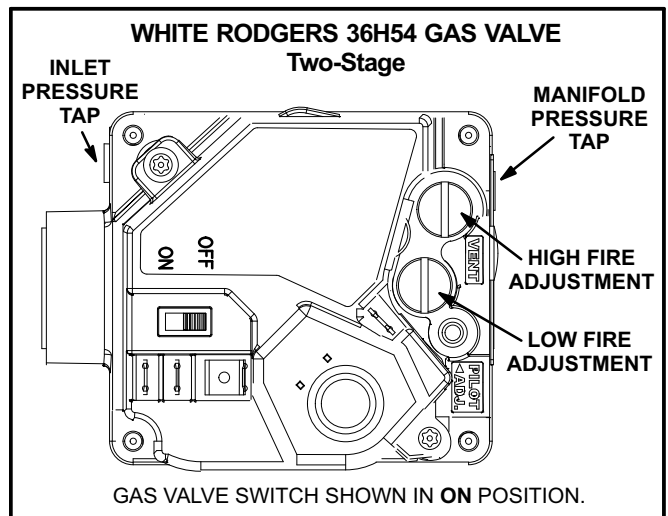
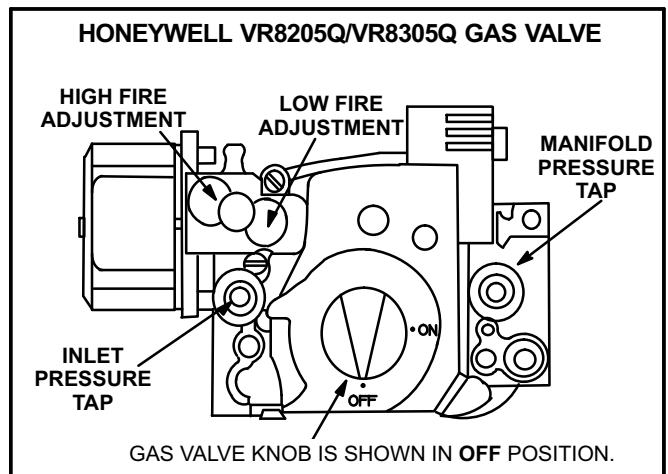

FIGURE 29
FIGURE 30
Gas Valve Operation for Honeywell VR8205Q/VR8305Q and White Rodgers 36H54 (figure 29 and 30).
- 5- Turn gas valve switch to **OFF**. See figure 29. On Honeywell VR8305Q gas valves, turn the knob on the gas valve clockwise ➡ to “OFF”. Do not force. See figure 30.
- 6- Wait five (5) minutes to clear out any gas. If you then smell gas, **STOP!** Immediately call your gas supplier from a neighbor's phone. Follow the gas supplier's instructions. If you do not smell gas, go to the next step.
- 7- Turn gas valve switch to **ON**. See figure 29. On Honeywell VR8305Q gas valves, turn the knob on the gas valve counterclockwise ⬅ to “ON”. Do not force. See figure 30.